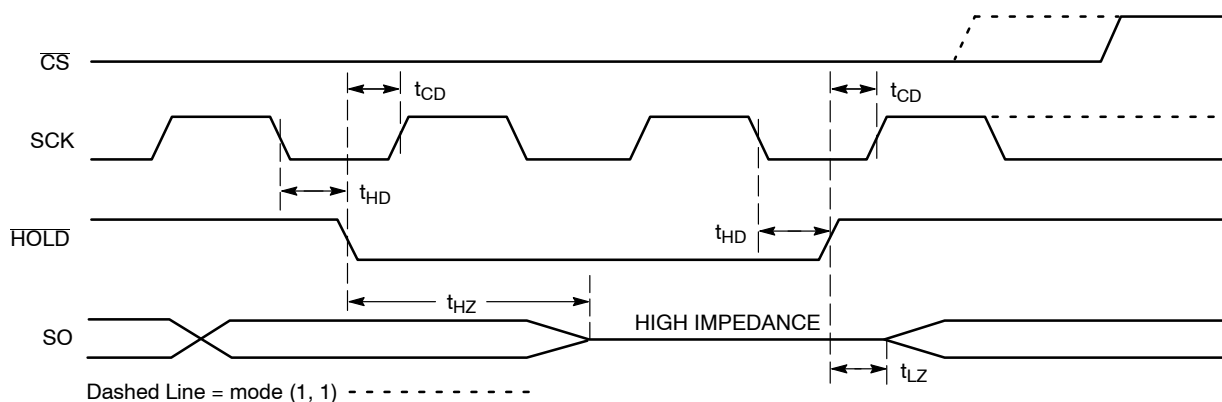

Figure 11. HOLD Timing
The $\overline{\text{HOLD}}$ input can be used to pause communication between host and CAT25010/20/40. To pause, $\overline{\text{HOLD}}$ must be taken low while SCK is low (Figure 11). During the hold condition the device must remain selected ($\overline{\text{CS}}$ low). During the pause, the data output pin (SO) is tri-stated (high impedance) and SI transitions are ignored. To resume communication, $\overline{\text{HOLD}}$ must be taken high while SCK is low.